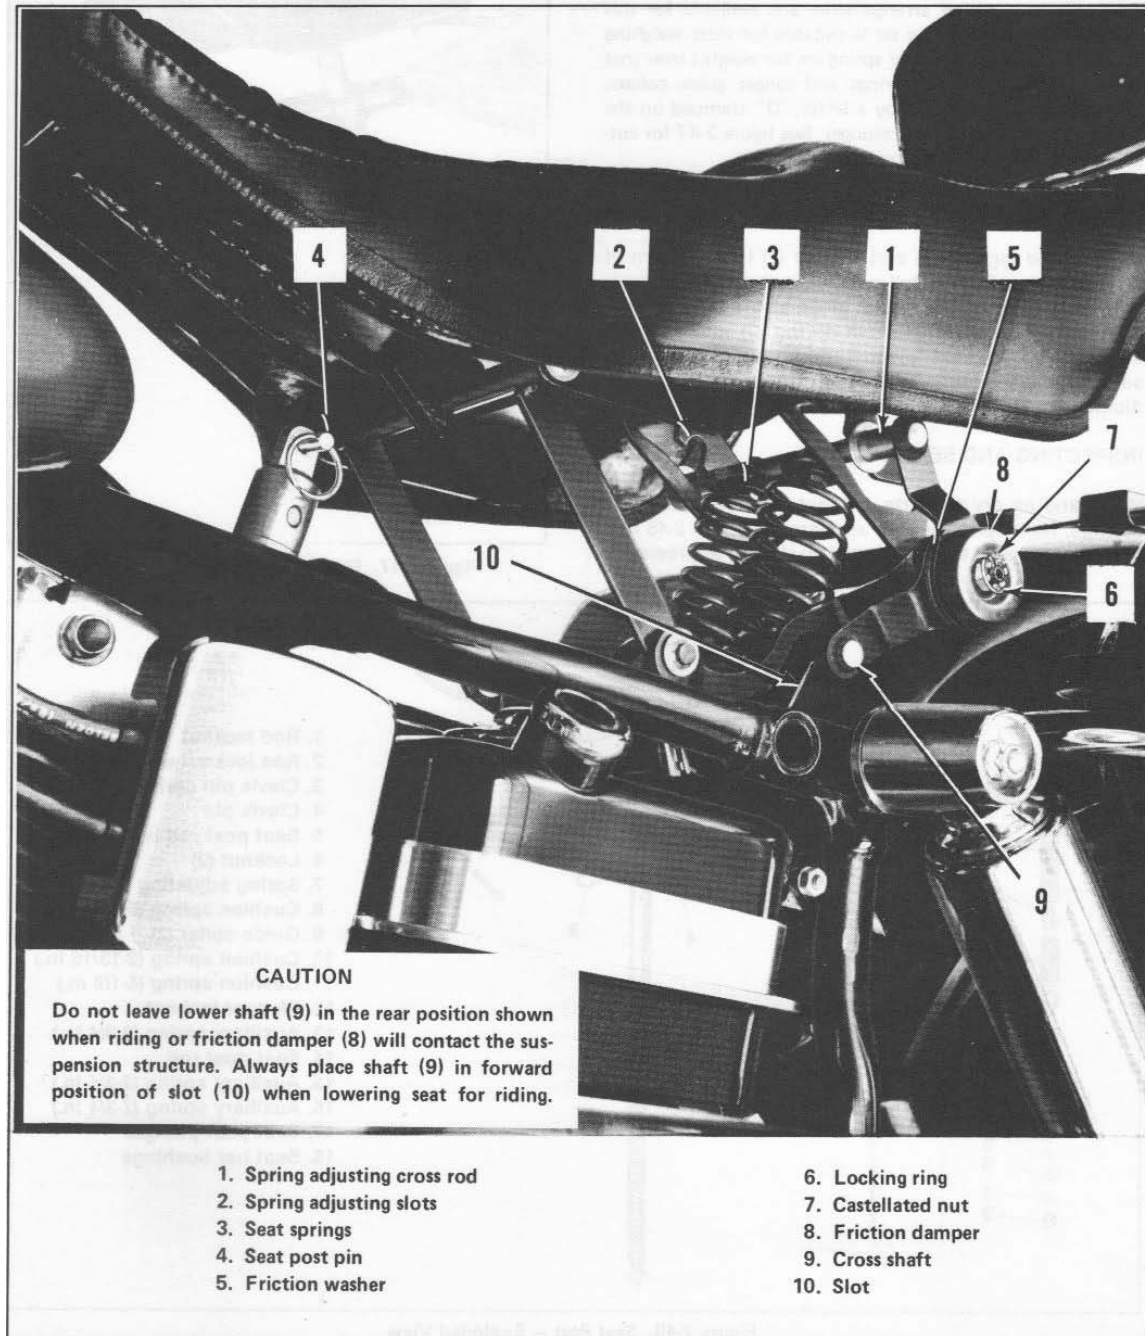
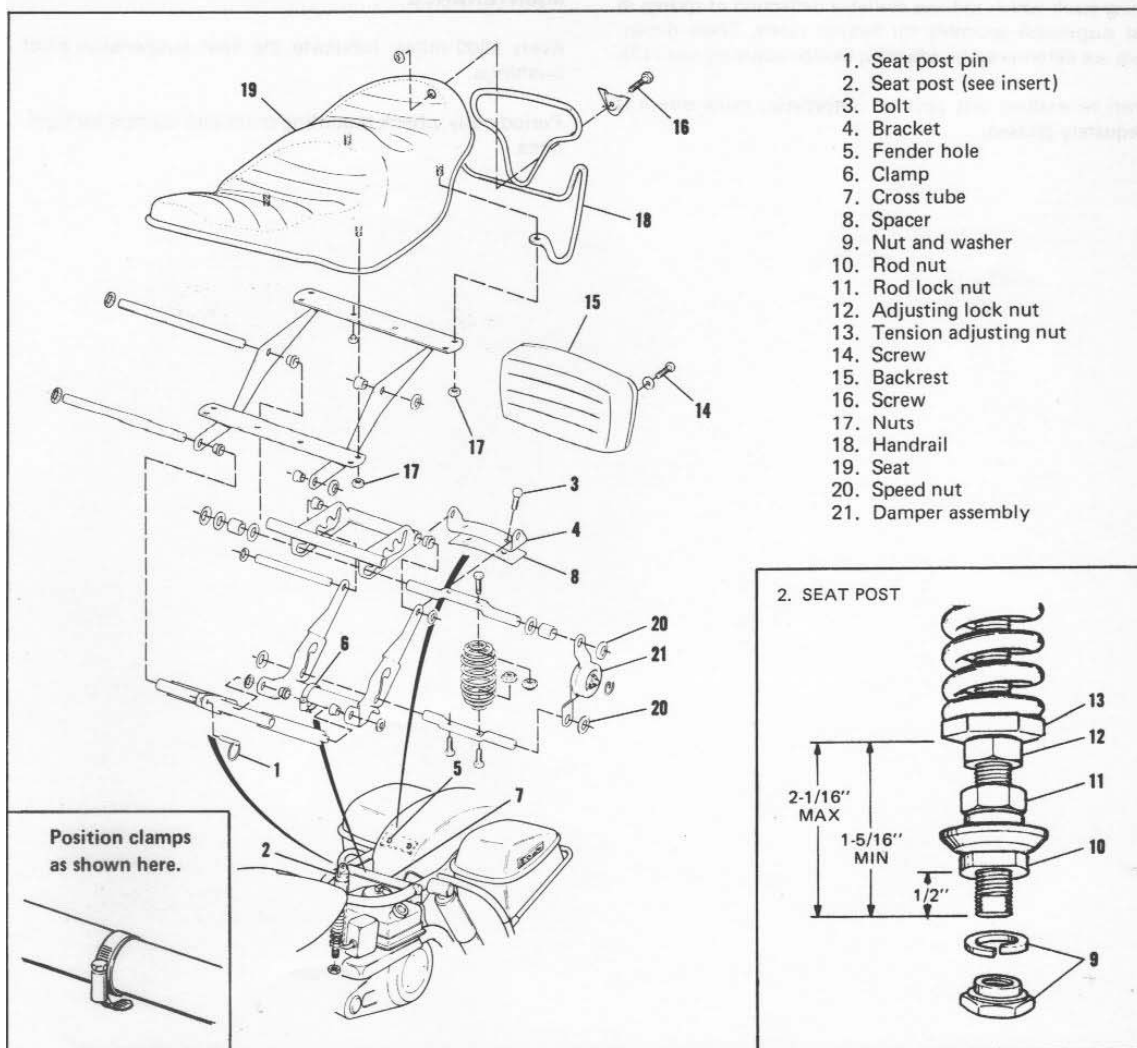

Figure 2-49. Seat Adjustments
Figure 2-50. Comfort Flex Seat – Exploded View
Seat Spring Firmness Adjustment (Figure 2-49)
REMOVING AND INSTALLING SEAT ASSEMBLY (Figure 2-50)
ances. The seat post height should be $3 \pm 1/16$ in. from seat post frame to centerline to post pin hole. With upper shaft (1, Figure 2-49) in fifth or rear most slot, the seat should compress fully to its stops and the gas tank clearance must be 1-1/2 in. minimum. There should be adequate clearance between seat and fender, luggage carrier with Tour-Pak, and saddlebags. If seat post height requires adjustment, proceed as follows. Refer to Figure 2-50, remove nut and washer (9) from bottom of seat post and remove seat post from motorcycle. Adjust rod nut (10) to obtain 1/2 in. dimension shown in figure. This dimension should give the seat the correct dimension of $3 \pm 1/16$ in. Note that adjusting locknut (12) can be removed completely from the assembly and not used at all if necessary to achieve the $3 \pm 1/16$ in. dimension.
After removal from motorcycle, the seat assembly is partially disassembled by removing items 14 through 20 in the order shown in Figure 2-50. Reassemble in reverse order.